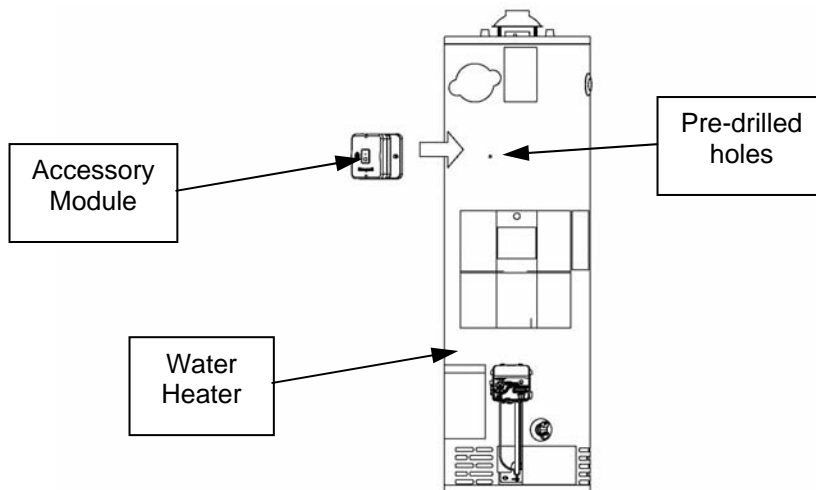

Figure 8
Step 8: Put the Accessory Module up against the water heater jacket and position it to the pre-drilled holes. This is shown in Figure 8.